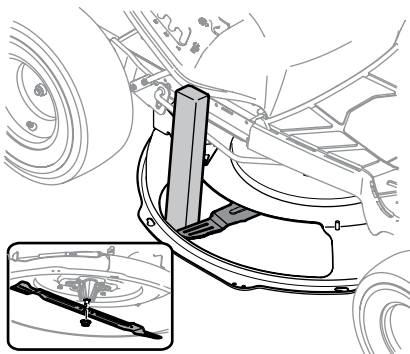

Figure 4-7
2. Using a block of wood or 2 x 4, insert it into the deck opening and rotate the blade around until it wedges the wood between the deck opening and the cutting blade, as shown in Figure 4-7.